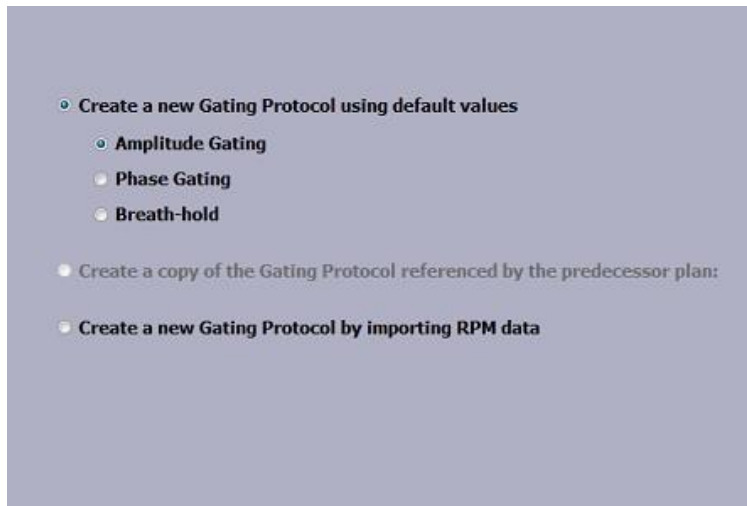

Figure 51: Amplitude Gating Selected
8. On the right side monitor, select **Amplitude Gating** shown in Figure 51. Click **Next**.